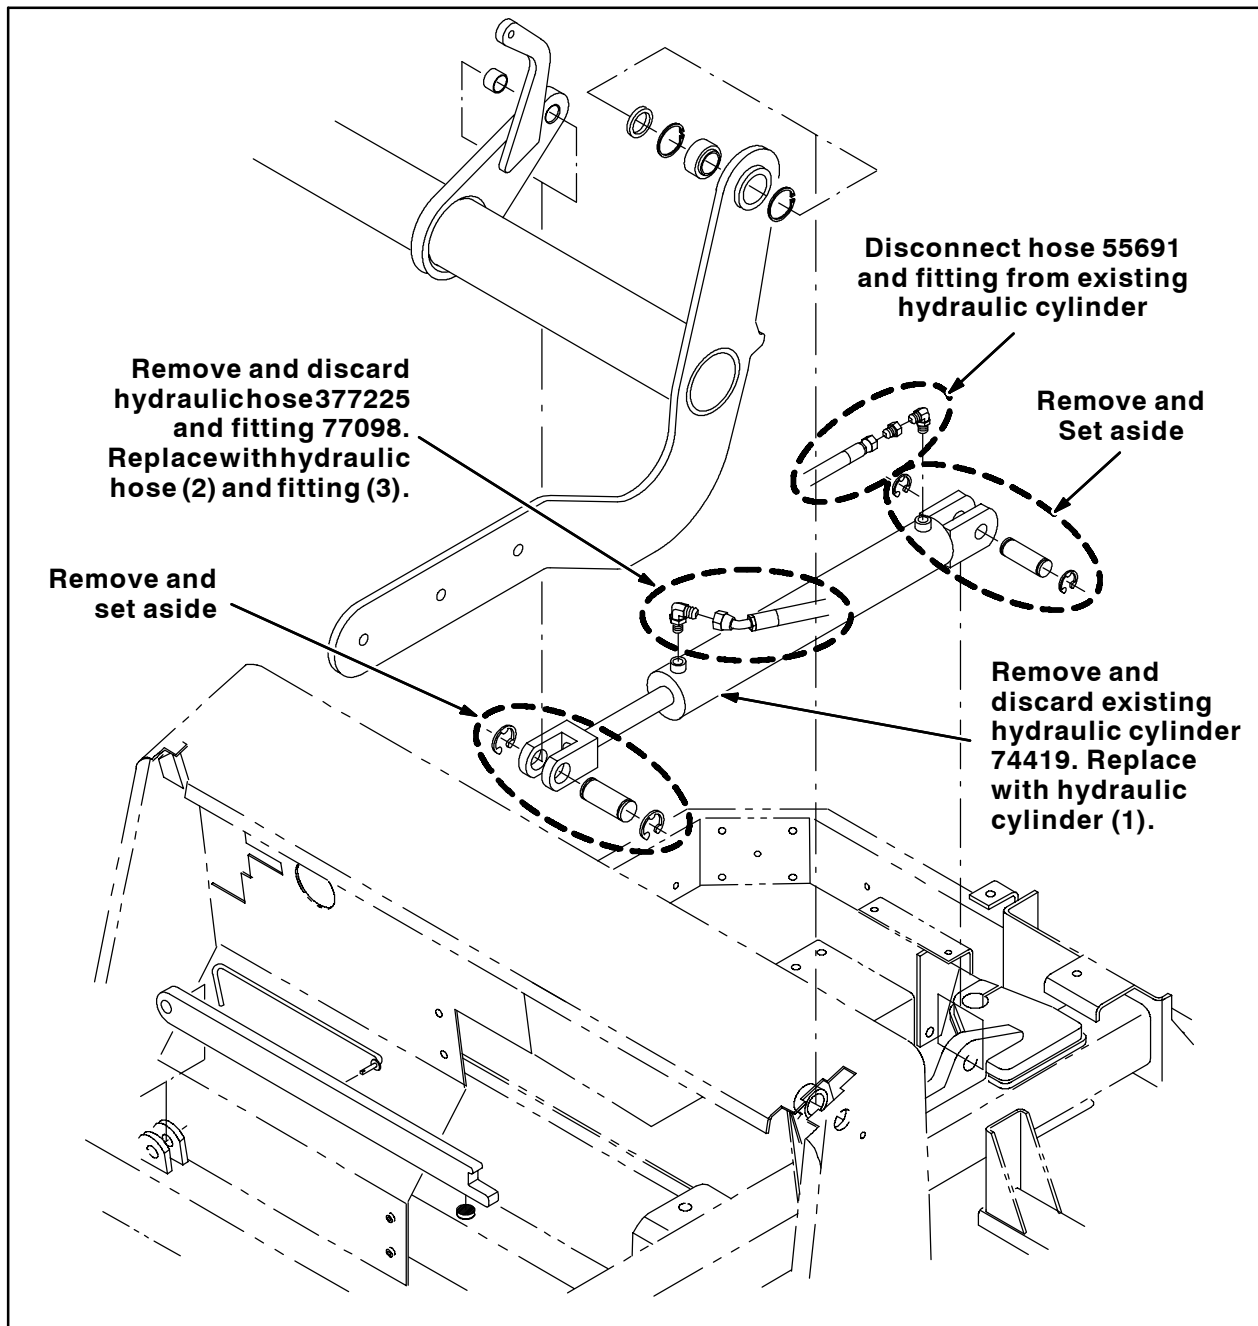
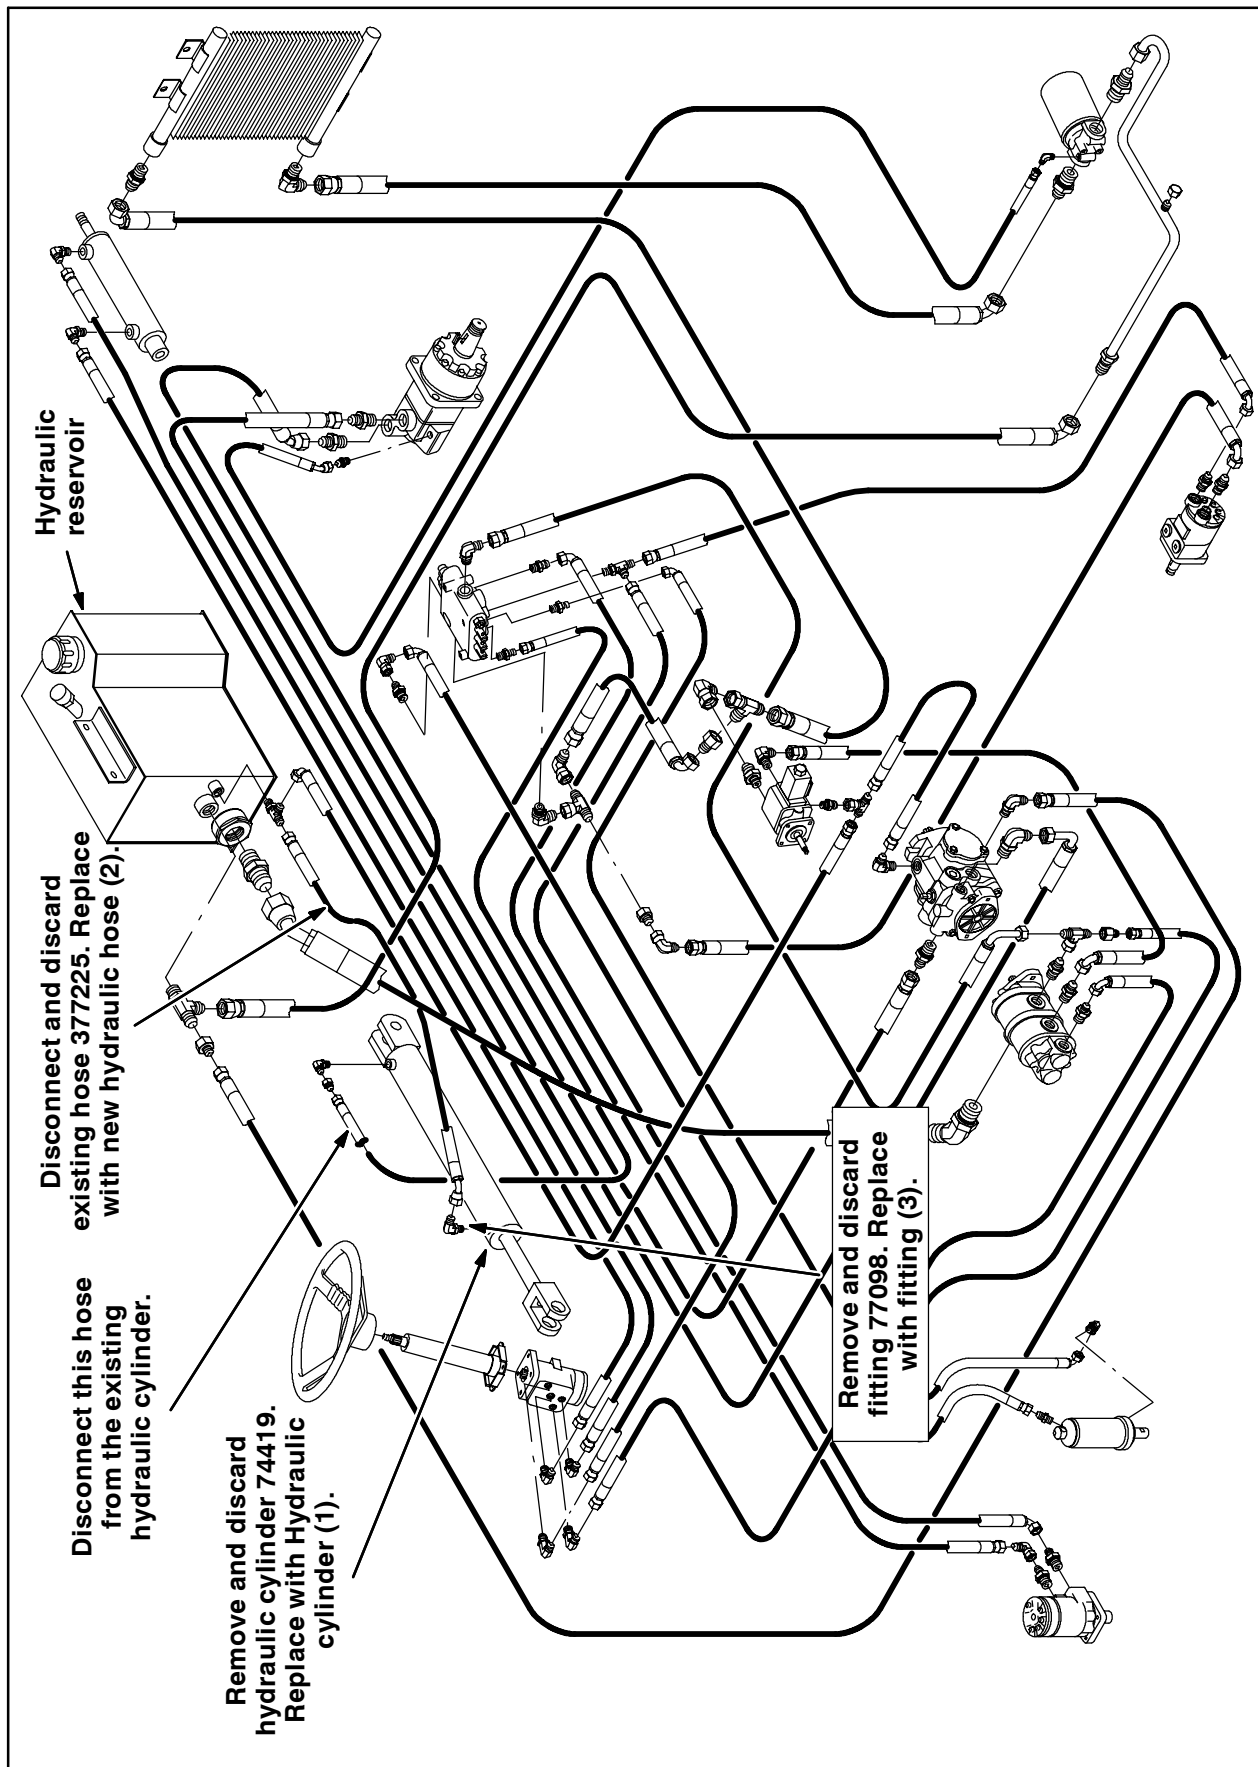

FIG. 1
FIG. 2
1. Remove hydraulic hose 377225 and fitting 77098 from the existing hydraulic cylinder 74419. Discard both the hose and the fitting. Refer to Fig. 1 and Fig. 2.
2. Disconnect hydraulic hose 55691 and fittings attached to the hose from the existing hydraulic cylinder 74419. **Do not** discard this hose or these fittings. Refer to Fig. 1 and Fig. 2.
3. Remove the existing hydraulic cylinder 74419 from the machine. Set hardware used to hold old hydraulic cylinder onto the machine aside. These items are needed to install the new hydraulic cylinder (1). Discard the existing hydraulic cylinder. Refer to Fig. 1.
4. Thread the fitting (3) into the new hydraulic cylinder (1). Refer to Fig. 1 and Fig. 2.
5. Use the hardware from the discarded hydraulic cylinder to install the new hydraulic cylinder (1) onto the machine. Refer to Fig. 1.
6. Connect the hydraulic hose (2) to the hydraulic reservoir, route the hose over to the hydraulic cylinder (1), and connect the hydraulic hose to the fitting (3) already installed on the hydraulic cylinder. Refer to Fig. 1 and Fig. 2.
7. Connect the hydraulic hose 55691 to the hydraulic cylinder. Refer to Fig. 1 and Fig. 2.